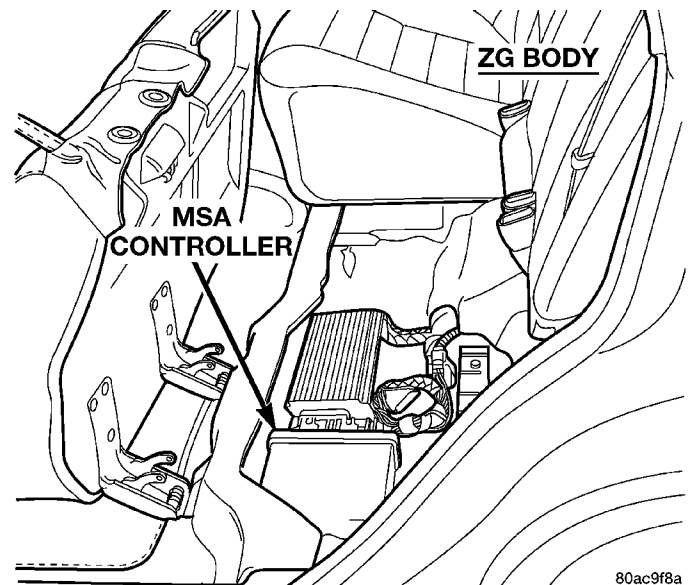

Fig. 13 MSA Location—Typical
- (3) Be sure that the 68 way connector is fully engaged with the MSA (Fig. 13).